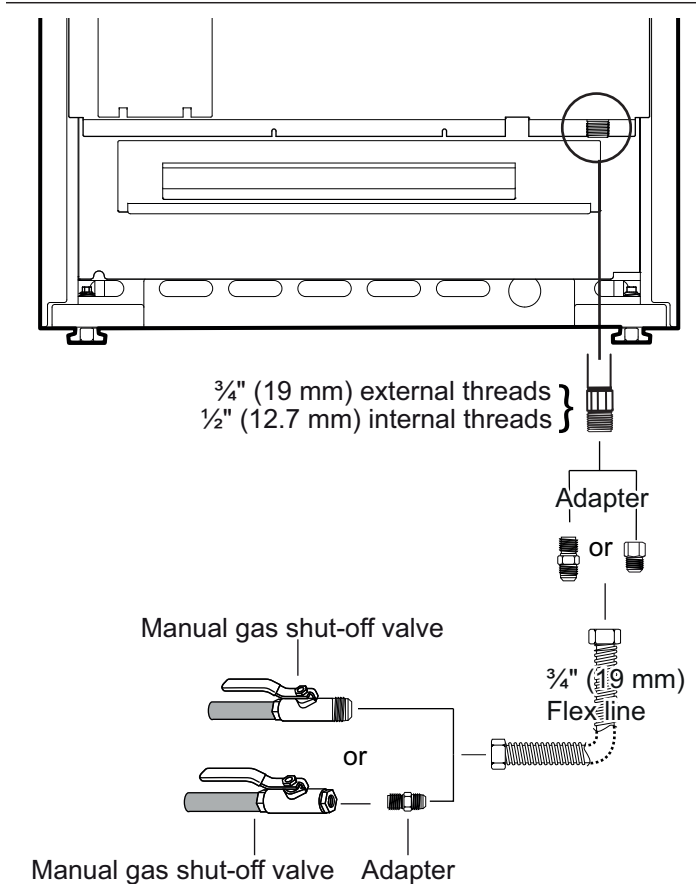

Figure 8: Gas Supply Connection
2. Use a 3/4" (19 mm) flex line to connect between the gas supply and the appliance gas inlet. The gas supply line connection is located at the lower right portion (see Figure 8). The appliance gas inlet connection is 1/2" (12.7 mm) NPT.